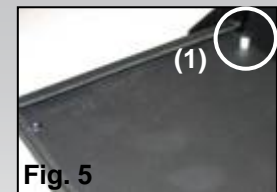
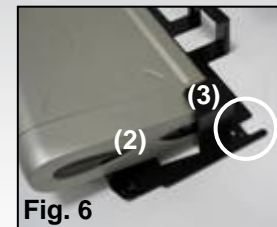

Fig. 5
Fig. 6
- 1) Open the DataBox Allround XL and the printer lid. There are two holders on the rear side of the printer lid (Fig. 5 (1)). These are designated „QuickFix“ mounts.
- 2) The printer must first be shoved into the „QuickFix“ holder (Fig. 6 (2)). Please make sure that the printer is safely mounted in the holder. The holder with the printer is then placed on the printer lid and connected to the other holders (Fig. 5 (1)). In doing so, the grooves of the „QuickFix“ holder (Fig. 6 (3)) must be fully inserted into the holders on the printer lid.